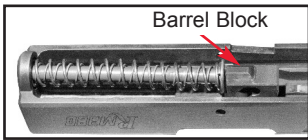

Figure 36
10. Compress the Recoil Springs slightly, center and seat on top of the Guide Rod lip and against the Barrel Block. See Figure 36 and 37.